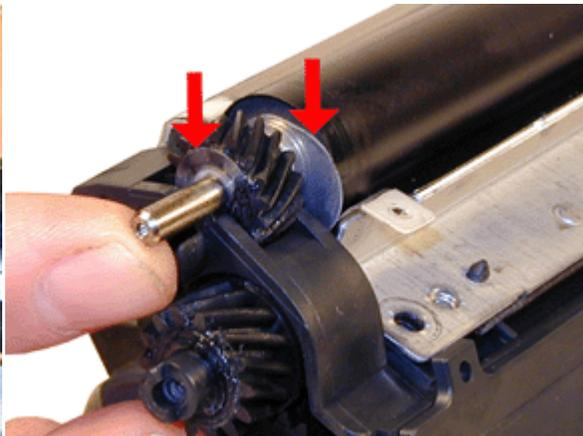

FIGURE 28
22. Install the developer roller. Make sure that the spacers on each side of the roller are straight, and in their proper place. See Figure 28